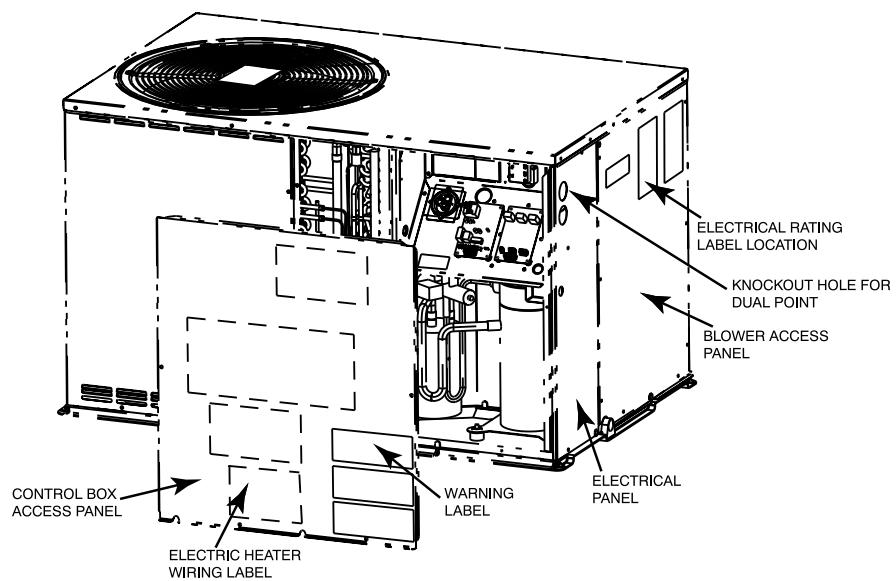

Fig. 1 – Access Panel and Label Location
3. Remove unit side panel to access blower compartment (See Fig. 1 and Fig. 2).
16. Attach the adhesive backed wiring label provided with the heater to the back of the access panel near the unit wiring label (See Fig. 1).
2. Remove Control Box Access Panel (see Fig. 1), check for clearance on the inside of control box, and remove a 7/8-in knockout hole on the Electrical Panel for second power line.
3. Attach warning and rating labels in the selected location (see Fig. 1).